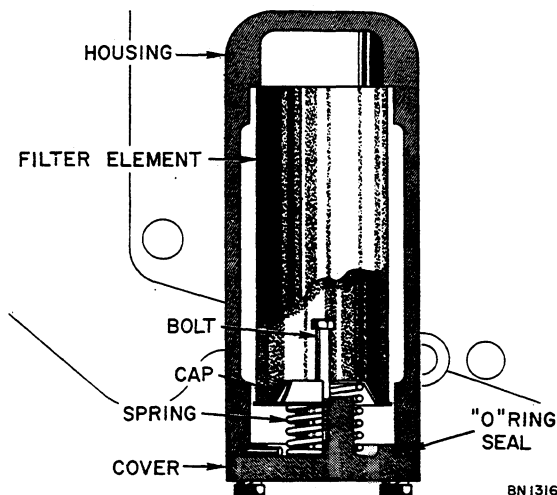

Figure 23 - Cross Sectional View of Filter
All of the oil in the Torque Converter Drive system is circulated through the oil filter. If dirt collects in the filter, it will act as a restriction. The filter is spring loaded, see Figure 23. When the oil is cold and too heavy or the filter element is plugged, the oil will bypass the element. **THUS, THE OIL WILL CIRCULATE WITHOUT FILTRATION. THIS WILL CAUSE PREMATURE FAILURE OF THE TORQUE CONVERTER SYSTEM.**
3. To prevent oil leakage, make sure the rubber "O" ring for the cap is in place and not damaged, see Figure 23.